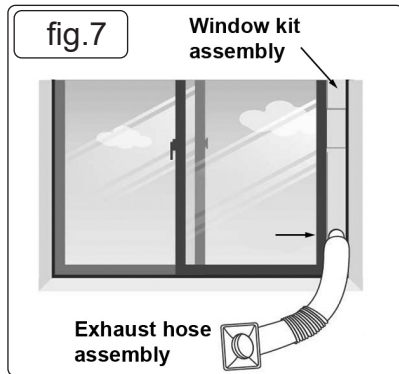

fig.7
- 5.4.1. Open the window and place the window kit into position, then close the window onto the window kit (fig.7).